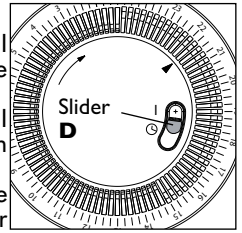

Fig. 5
To operate the appliance without the timer, place the timer pointer in the I position. To operate the appliance at set times, position the pointer (D) in the position  (fig.5) and proceed as follows:
- To operate the appliance without the timer, place the timer pointer in the I position. To operate the appliance at set times, position the pointer (D) in the  position and proceed as follows:
- To turn the appliance off completely, turn the dial (A) to the "0" position and unplug from the mains to avoid the programmer operating uselessly.